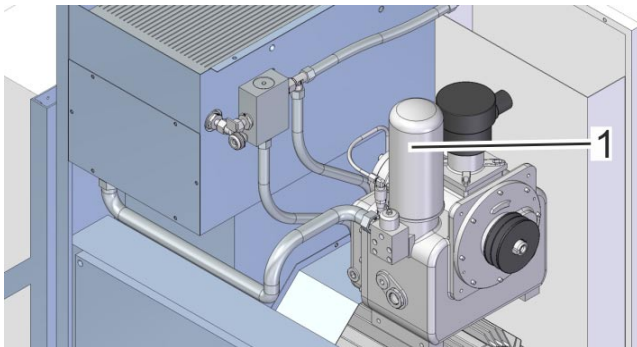

Fig. 39: Air/oil separator
7. Screw in the new air/oil separator (Fig. 39/1) up to the stop.
8. Tighten the new air/oil separator (Fig. 39/1) half a turn by hand.